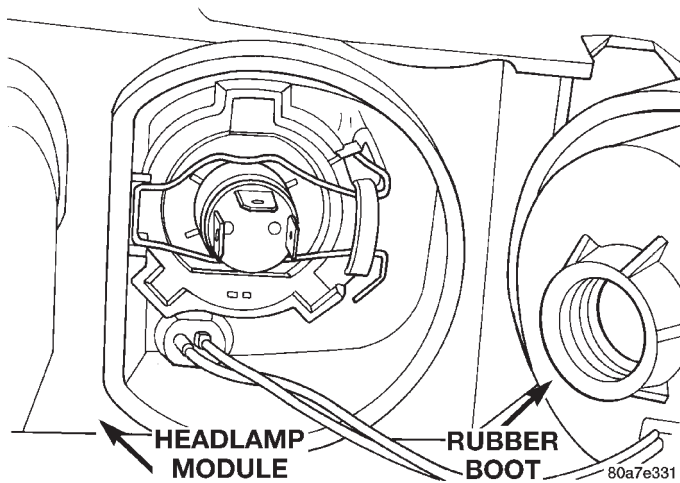
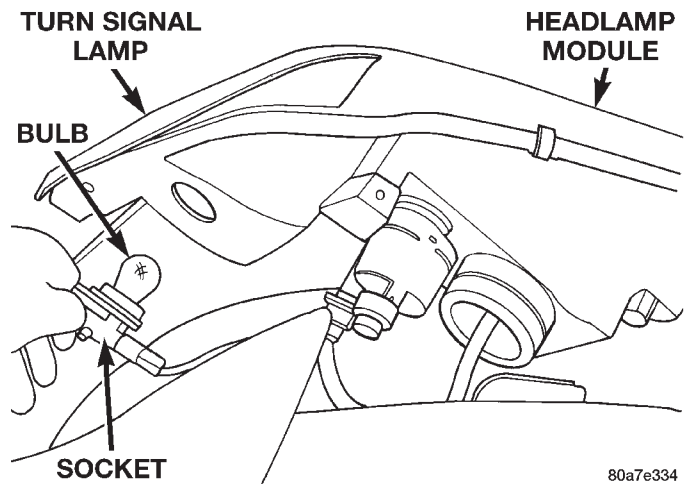

Fig. 1 Rubber Boot Seal
Fig. 2 Headlamp Module
- (1) Release hood latch and open hood.
- (2) Remove screws holding headlamp module to radiator closure panel.
- (3) Separate headlamp module from radiator closure panel.
- (4) Disengage wire connector from back of headlamp bulb.
- (5) Remove rubber seal boot (Fig. 1).
- (6) Pull park lamp bulb socket from headlamp module.
- (7) Disengage retaining ring from headlamp leveling motor connector.
- (8) Pull connector from motor.
- (9) rotate turn signal socket counterclockwise one quarter turn.
- (10) Pull socket from headlamp module (Fig. 2).
- (11) Separate headlamp module from vehicle.